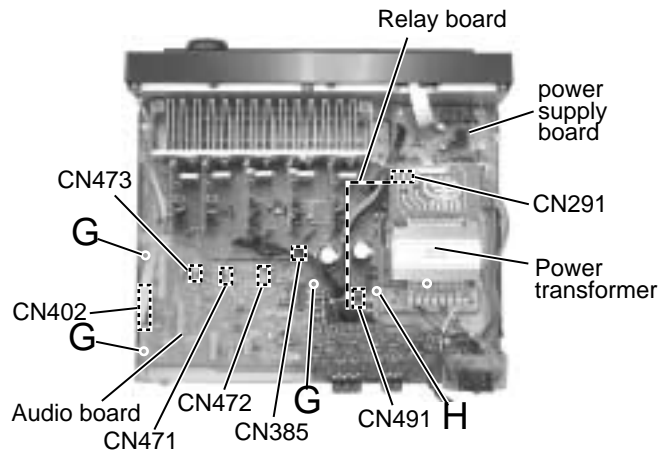

Fig.9
**■ Removing the audio board (See Fig.9)**